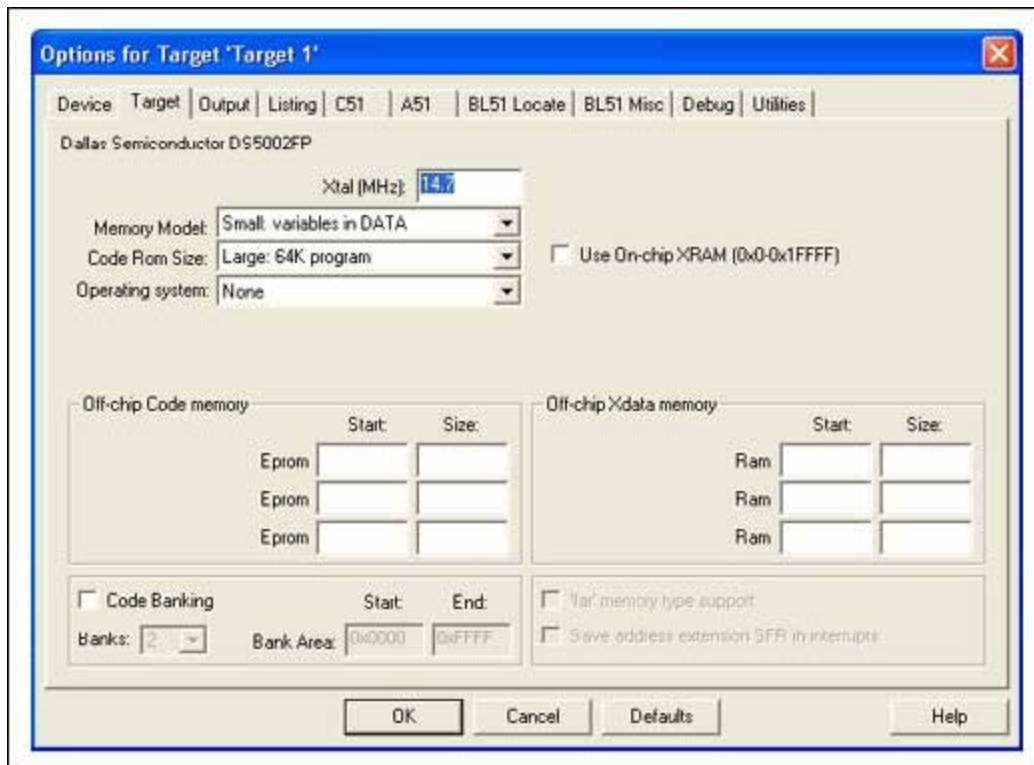

Figure 3. Project options target tab settings.
7. Configure the project options by right clicking on Target 1 in the Project Workspace window, and select the "Options for Target 'Target 1'." Click on the Target tab, and type 14.7 into the Xtal box. Select "Small: variables in DATA" for the Memory Model, select "Large: 64K program" for the Code ROM Size, and select "None" for the Operating system as shown in **Figure 3** below. All other selections in this window can be left in their default state.